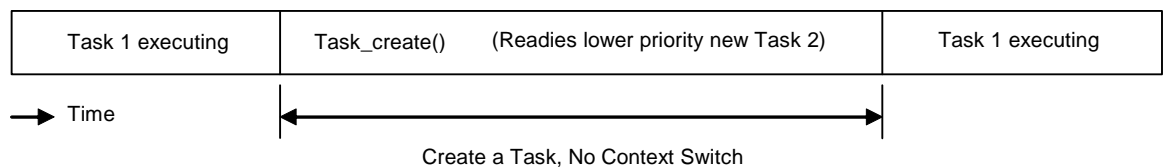

Figure C-6 Create a New Task without Context Switch
- ❑ **Create a task, no context switch.** The executing task creates and readies another task of lower or equal priority, which results in no context switch. See Figure C-6.